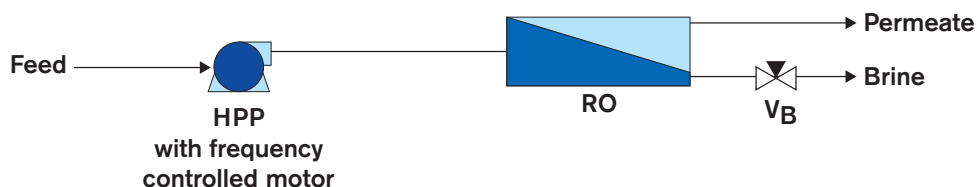

Figure TMM-220-4:
- 4) Centrifugal pump system with a frequency-controlled motor (**Figure TMM-220-4**)